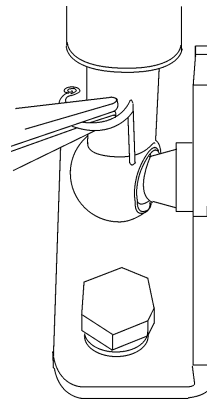

Figure 4-3.
4. Using needle-nose pliers, rotate the retaining clip outward, then pull the clip out (Figure 4-3).